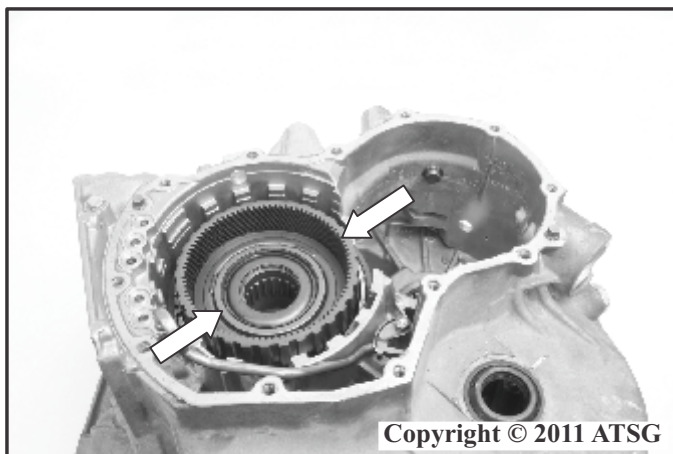

Figure 58
93. Remove the front internal gear thrust bearing assembly as shown in Figure 58.
94. Remove the front internal gear assembly as shown in Figure 58.
95. Remove the front internal gear thrust bearing assembly and the front internal gear thrust washer race (*located on the back side of the front internal gear*) as shown in Figure 58.